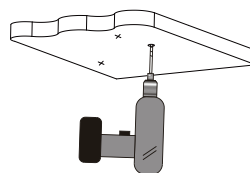

Fig.4
- Step4 Install the product on the place where you marked (as Fig.4)